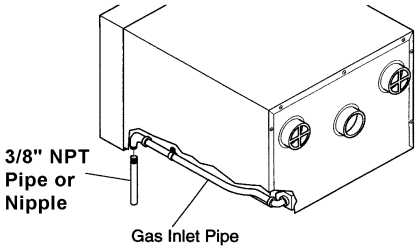

Figure 8 - Connecting Gas from Inside of Room
- 1. Locate gas inlet pipe on lower, right front of furnace (see Figure 8).
- 2. Connect 3/8" NPT pipe or nipple to gas inlet pipe (see Figure 8). See *Providing Gas Piping to Furnace* for correct gas pipe installation.